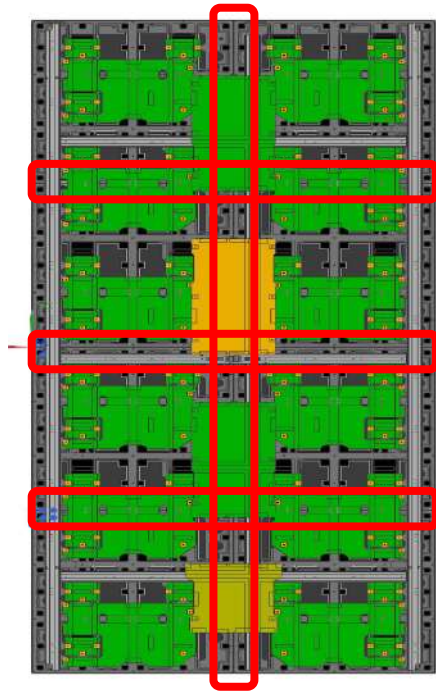

Fig1. LED module gap adjustment area
- if there is a gap, screw the area of Figure 1 to adjust the height of the low part to the high part.